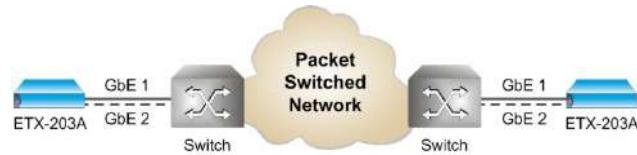

Figure 7-8. Network Link Aggregation Redundancy Mode
The two Gigabit Ethernet ports can be operated as a single logical interface, using link aggregation in accordance with IEEE 802.3-2005. The two ports must be connected to the same switch/router, as shown in Figure 7-8.
- Connection of both ports to the same switch/router, as shown in Figure 7-8.